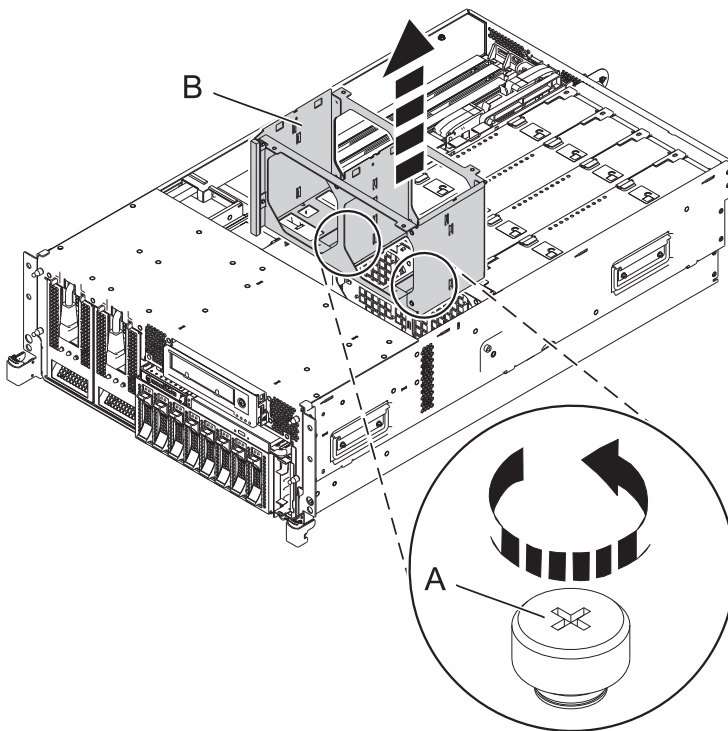

Figure 8. Removing the fan cage from the system
- c. To remove the fan cage, loosen the two thumbscrews (A) and lift the fan cage (B) out of the system as shown in Figure 8.